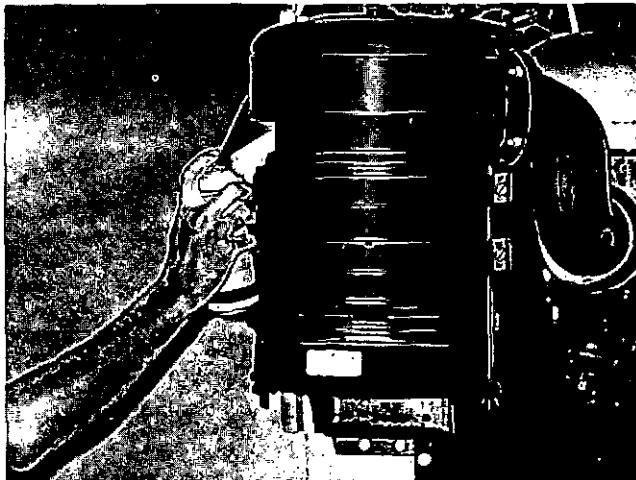

Fig. 2-3, V11468. Ether spray application
1. Spray ether starting fluid into air cleaner intake while a second man cranks engine, Fig. 2-3.